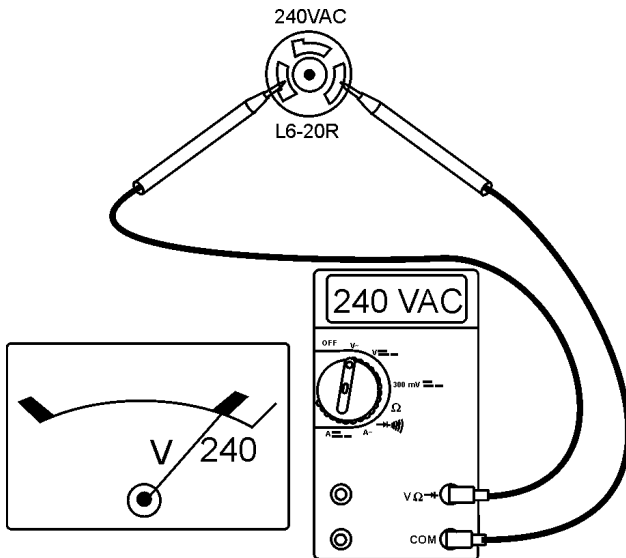

Figure 20. 240V Receptacle
12. Read voltmeter on front panel of generator (Figure 20) and verify that 240 VAC is displayed. Using an external voltmeter as shown in Figure 20, verify that 240 VAC is present at the 240V twist-lock receptacle.